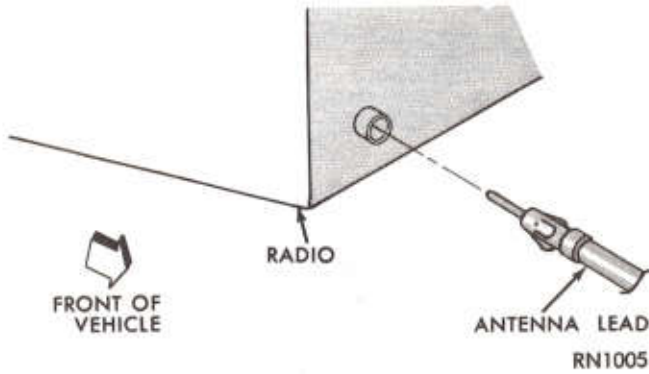

Fig. 6—Unplugging Antenna Lead from Radio
- (1) Disconnect fusible link in engine compartment.
- (2) Remove glove box.
- (3) Reach behind instrument panel and unplug antenna cable from radio (Fig. 6).